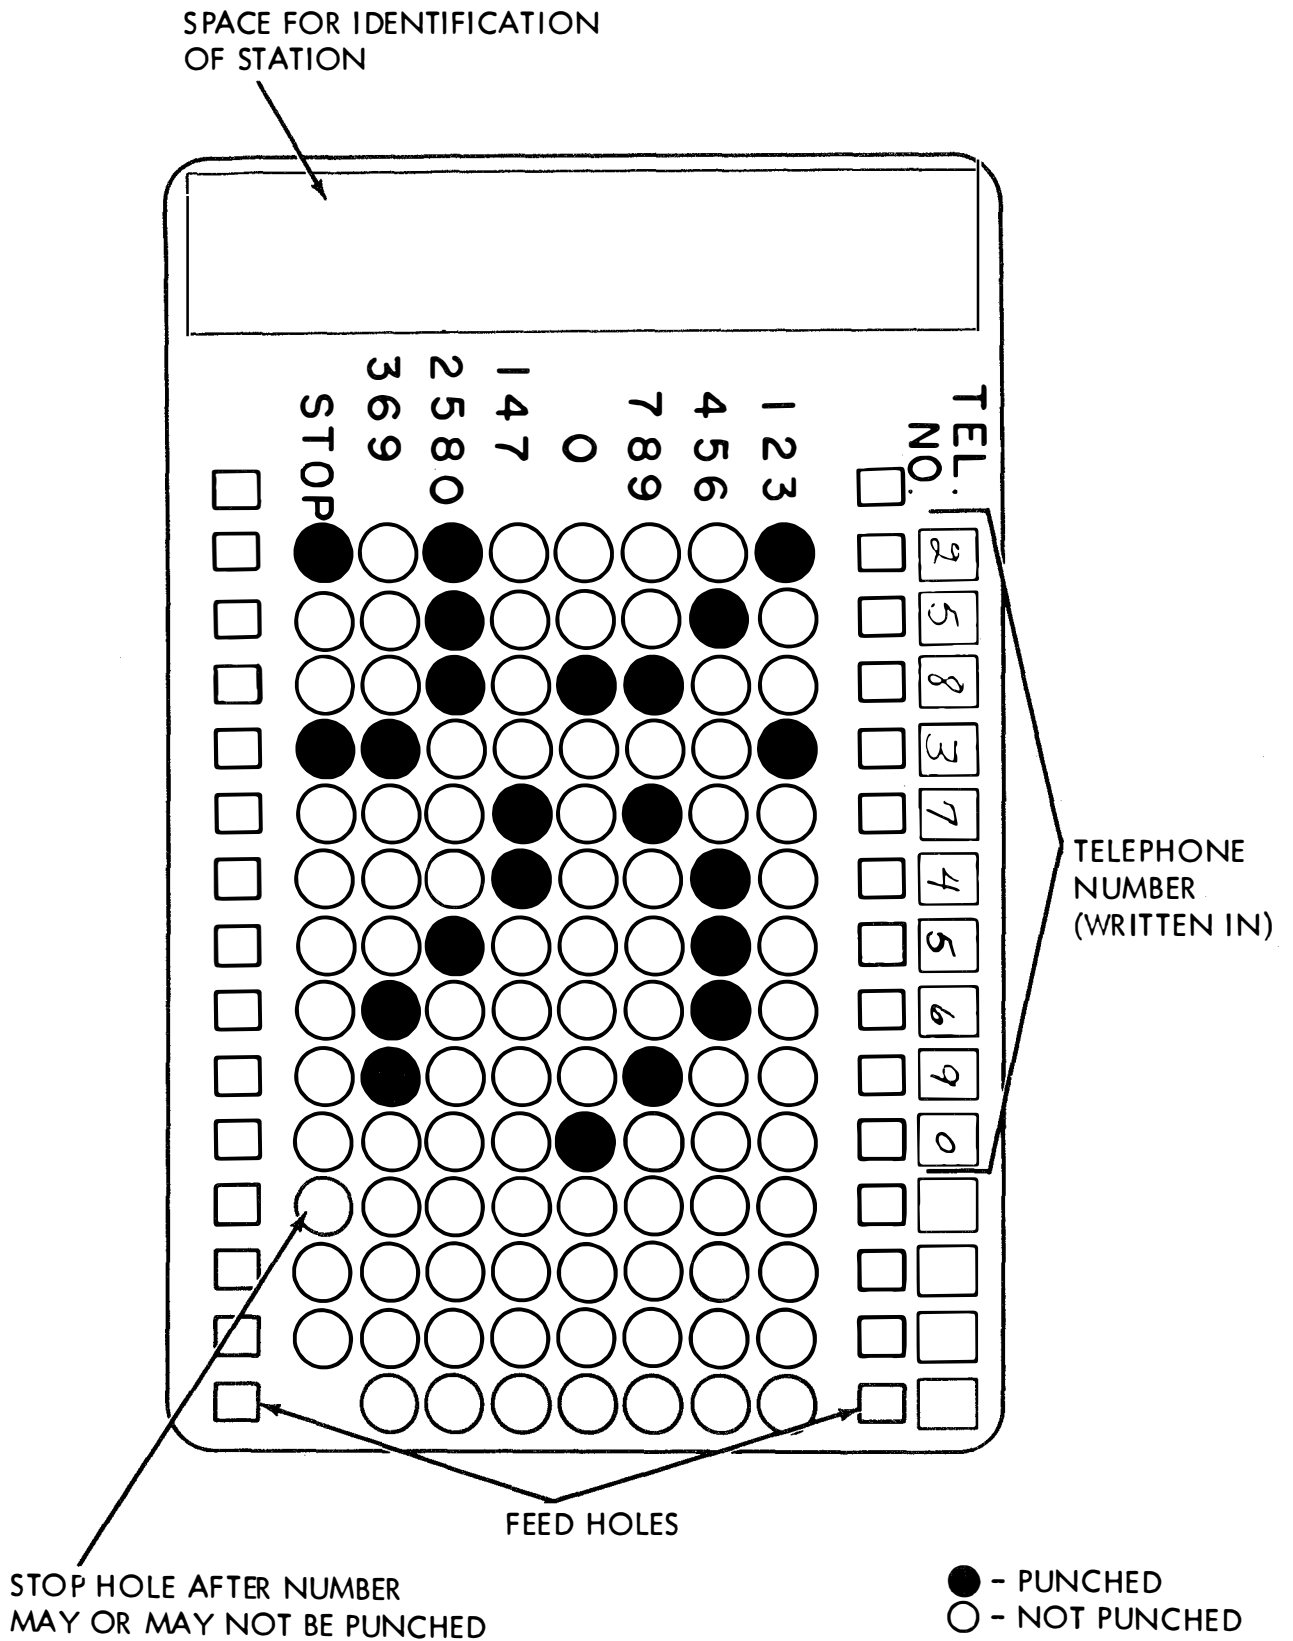

FIGURE 3
- 3.01 To code a card, one needs (or use) a pointed instrument such as a pencil. Write the telephone number in the small boxes on the extreme right side of the card, as shown on Figure 3. Include any sequence (such as an area code) needed to obtain an outside line if these calls are originated through a PBX switchboard. It should be noted that the card dialer senses a code in the card and simultaneously transmits the digits, and then advances the card to the next row.
- 3.03 Code the first digit of the telephone number in the first horizontal row by punching a hole under the groups of numbers at the top of the card which contain this number. For example, if the first number is 2, as shown on Figure 3, punch a hole under the groups that contain the number 2 (holes shown in solid black). Also, punch a hole under STOP in the first row.
3.05 When dialing must be stopped after a sequence of numbers has been dialed, punch a hole under STOP in the row after the last number in the sequence. For example, on Figure 3, the card must stop after the first three digits (area code 258) have been dialed so the operator can hear a dial tone. Therefore, a hole under STOP is punched in the fourth row. To continue dialing depress the START bar.